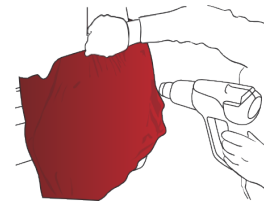

Figure 15
- › Following this, heat to a temperature ranging from 40 °C to 50 °C (from 104 °F to 122 °F) (FIG. 15) and squeegee the surface.